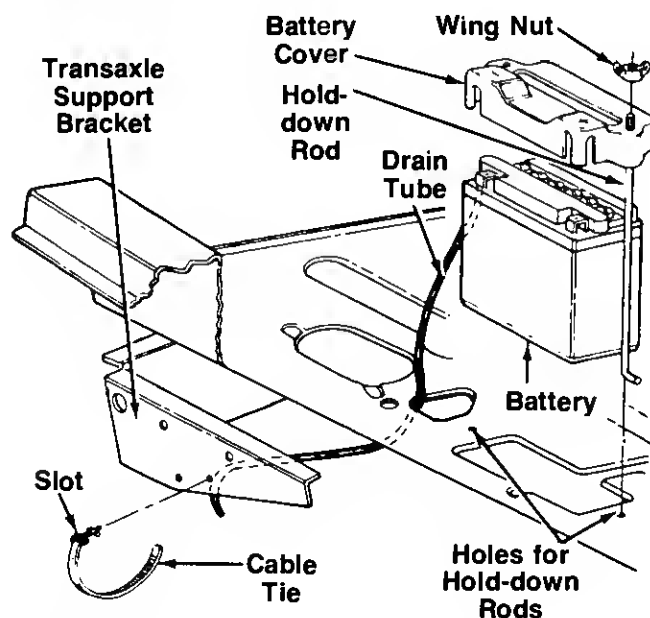

FIGURE 14.
5. Secure the battery in place with battery cover and hold-down rods. Secure with two wing nuts. See figure 14.
6. Route the clear plastic drain tube down through the hole in the frame, next to the engine drain plug, shown in figure 14.
7. Push the locking end of cable tie through the hole in transaxle support bracket. See figure 14. Place the end of cable tie through the slot so a loop is formed around the drain tube to secure it. Tighten cable tie and cut off excess end.